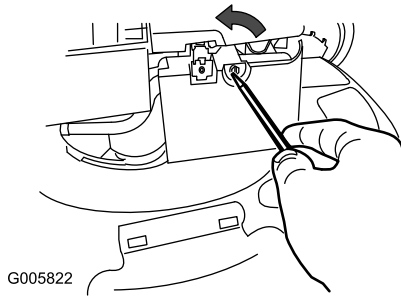

Figure 19
1. Use a screw driver to open the air-filter cover (Figure 19).